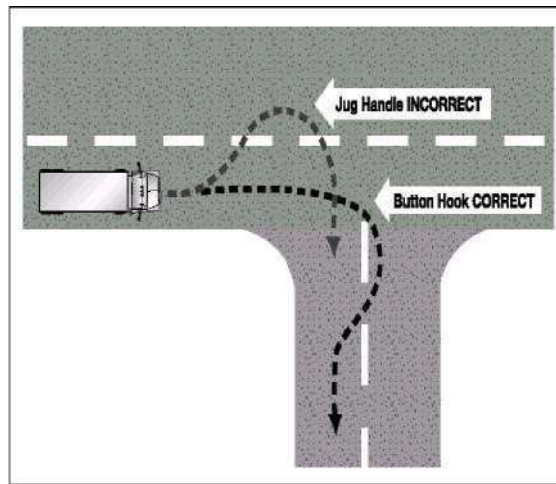

Figure 2.13
- If you must cross into the oncoming lane to make a turn, watch out for vehicles coming toward you. Give them room to go by or to stop. However, don't back up for them because you might hit someone behind you. See **Figure 2.13**.